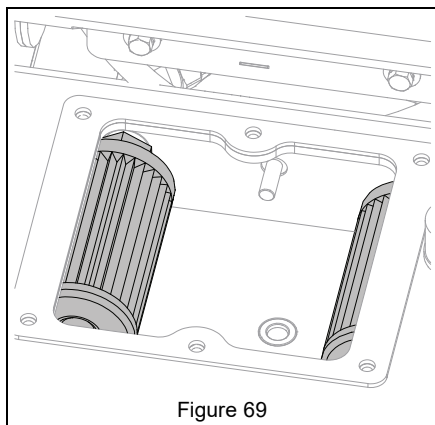

Figure 69
3. Replace both hydraulic filters. See Figure 69.